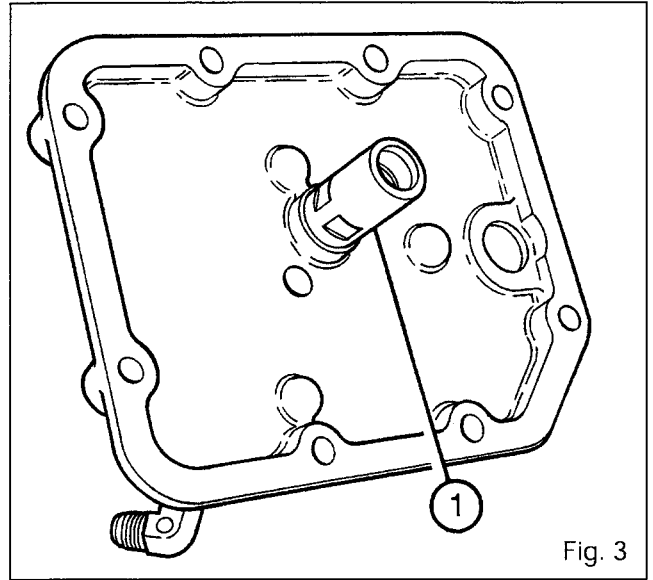

Fig. 3
Note: As from serial number E240024, a check valve (1) (Fig 3) screwed onto the inner face of the cover maintains a pressure of approximately 5 bar for the lubrication of brakes (see section 9A01).